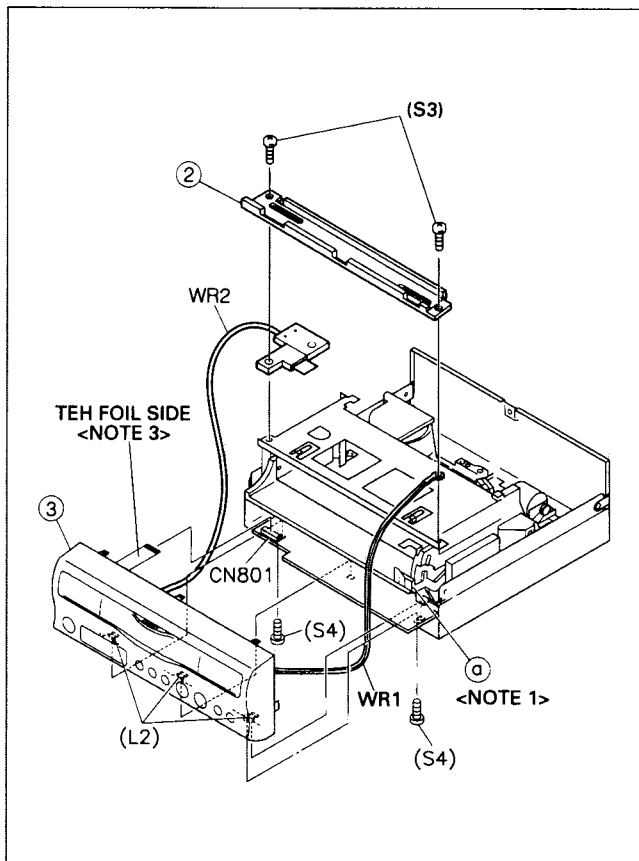

Fig. D2
- (2) Remove the stay and Front panel assembly. (See Fig. D2 of 1.3 DISASSEMBLY/ASSEMBLY METHOD.)